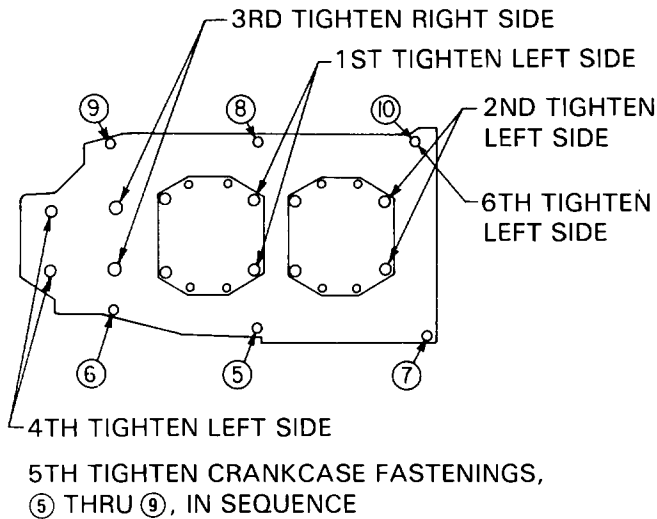

Figure 2. Left Side of Crankcase
b. Four Cylinder Engines, Standard Cylinder Flange (See Figure 2).